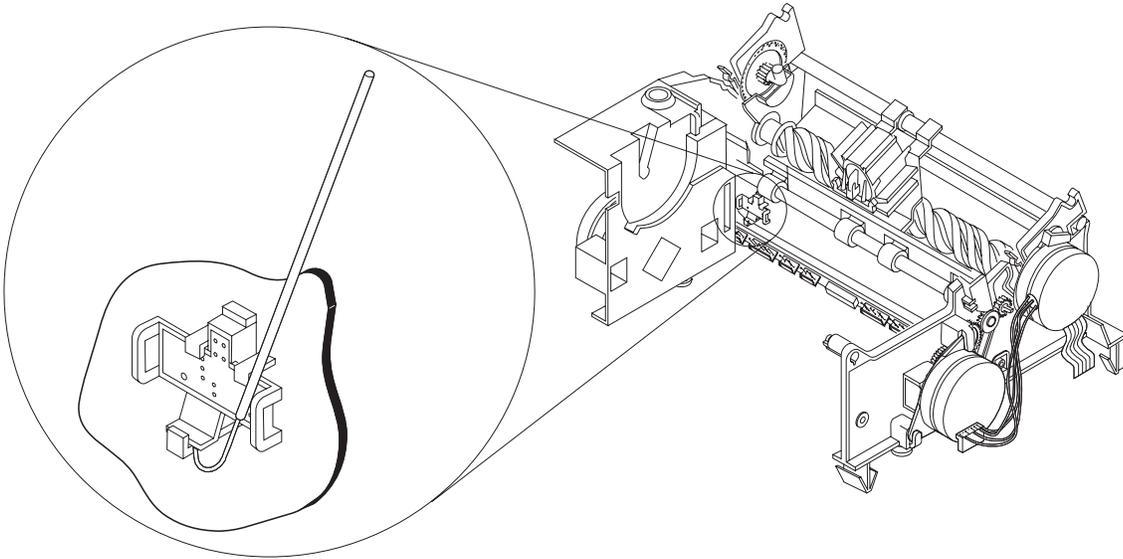

Figure 6-67. Lower DI Sensor
- 8 Using a spring hook as shown, release the sensor from the tab by gently lifting up. See Figure 6-67 on page 6-98.